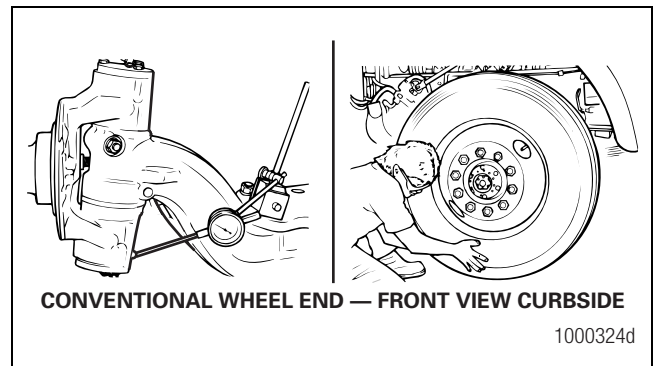
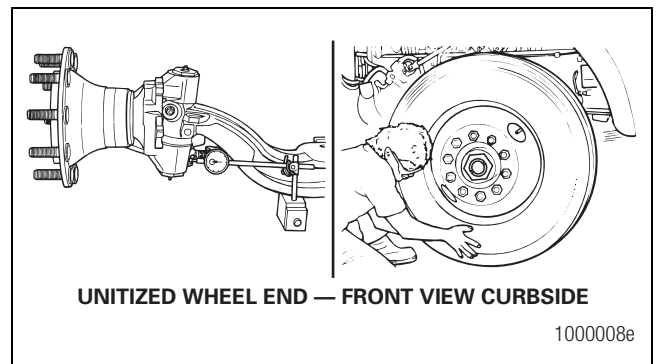

Figure 6.13
Figure 6.14
6. Check the lower king pin bushing. Install a dial indicator so that the base is on the I-beam and that the tip is against the side of the bottom of the knuckle. Figure 6.13 and Figure 6.14.
- **If the dial indicator moves a total of 0.010-inch (0.254 mm):** The lower bushing is worn or damaged. Replace both bushings in the knuckle. Refer to Maintenance Manual 2, Front Non-Drive Steer Axles, for more information. Figure 6.13 and Figure 6.14.